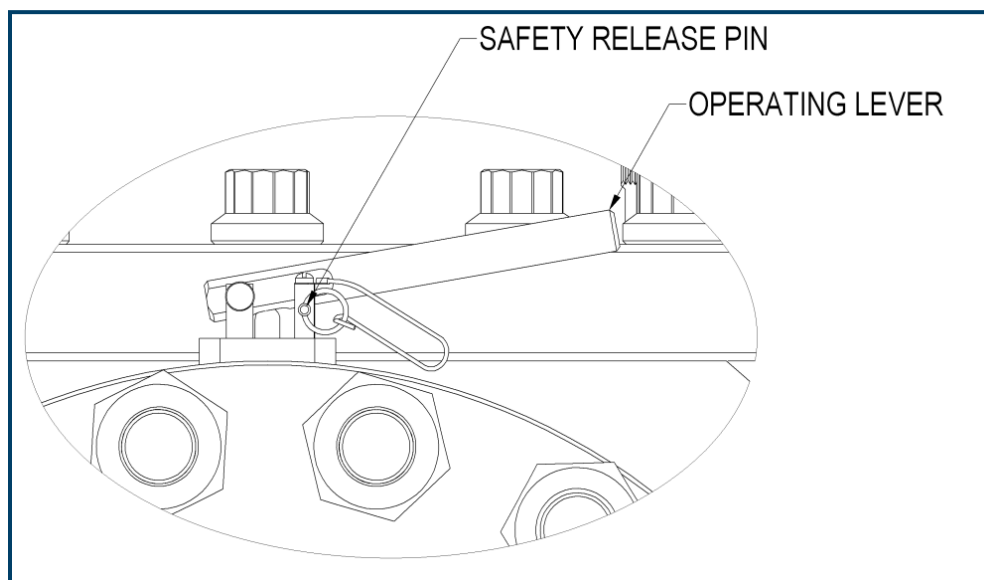

Figure 3: Argus Integral Equalization Valve
4. Ensure safety release pin is installed in the integral equalization valve (see Figure 3), preventing accidental operation during the pigging operation.
16. Equalize cavity pressure with the integral equalization valve (see Figure 3). Remove safety release pin and depress operating lever to energize cavity. Release the operating lever once the valve cavity has been energized, which is usually indicated by an audible change in flow through the equalization valve. Replace the safety release pin to lock out accidental operation.
16. Equalize cavity pressure with the integral equalization valve (see Figure 3). Remove the safety release pin and depress operating lever to energize cavity. Release the operating lever once the valve cavity has been energized, which is usually indicated by an audible change in flow through the equalization valve. Replace the safety release pin to lock out accidental operation.